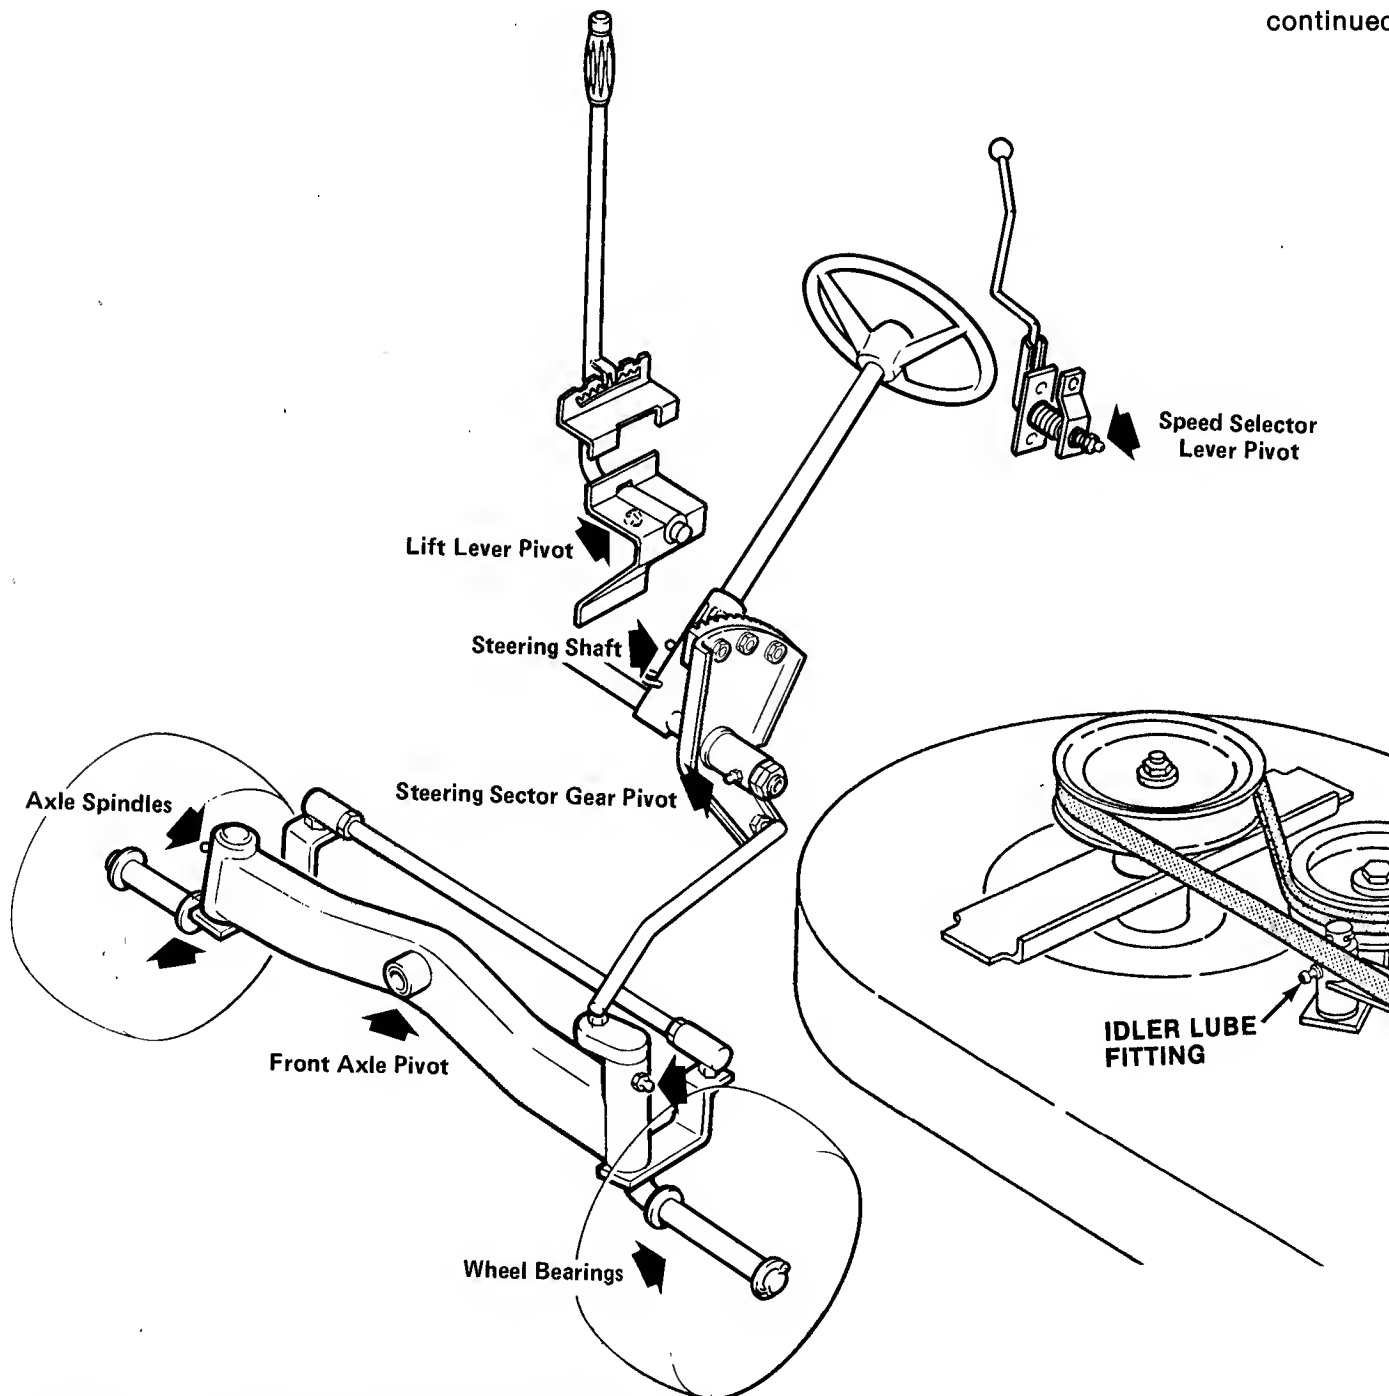

FIGURE 11 -- LUBRICATION POINT SCHEMATIC
- **FRONT WHEEL BEARINGS:** Lubricate bearings through the fitting on hub of front wheels (figure 11).
- **FRONT AXLE PIVOT & SPINDLES:** Lubricate spindle fitting at each wheel (see figure 11) and the center pivot fitting on underside of the front axle.
- LUBRICATE FITTINGS (with two shots of grease) on: 1. ground speed selector lever (figure 11 & 13) 2. implement lift lever